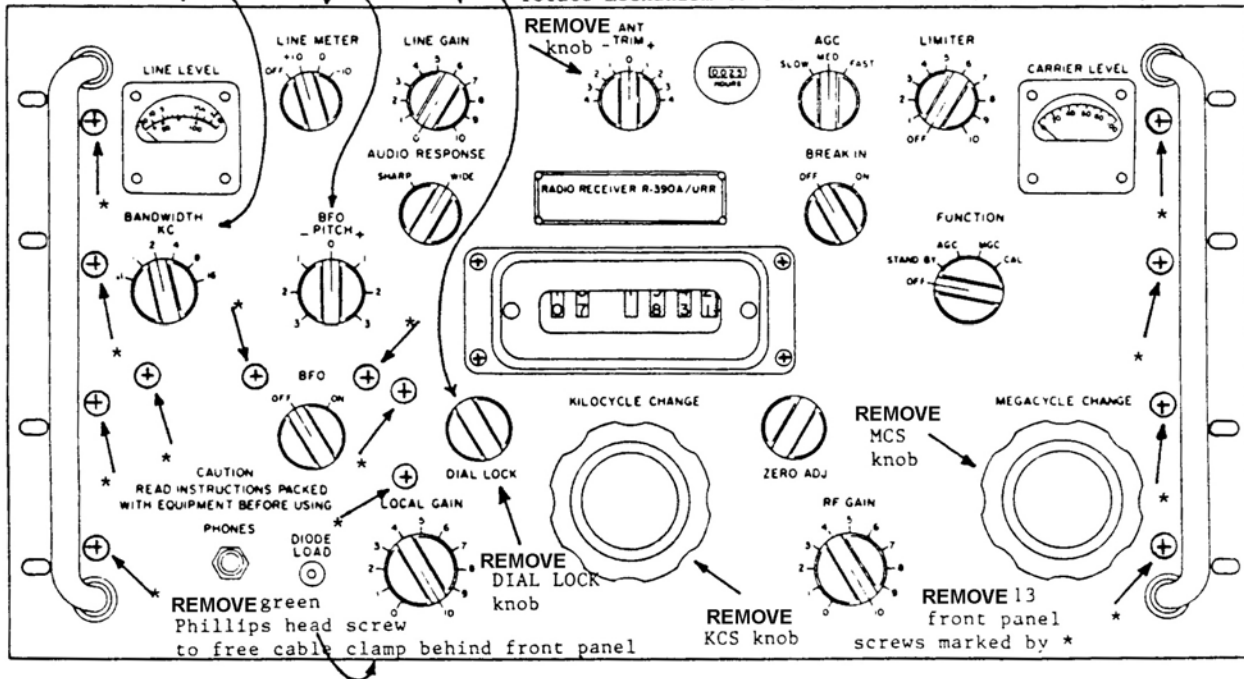

FIG. 1 Front Panel Removal
To determine if the Veeder Root counter (the MCS/KCS counter; see Fig. 1) is aligned, (1) turn the ZERO ADJ knob clockwise until the clutch is disengaged, i.e. until the digit wheel of the Veeder Root counter does not move when the KCS knob is turned through its zero adjustment range (about 14 kHz), (2) set the KCS knob at about the center of its adjust range, and (3) turn the ZERO ADJ knob fully counter clockwise to engage the clutch. The KCS knob should be left in the center of its zero adjust range for the remaining checks and alignments. Next, (4) turn the KCS knob throughout its entire range, from one limit of the 10 turn stop to the other. An aligned Veeder Root counter should read about xx-965 and xx+035 at the stop limits. In other words, the 1000 kHz tuning range of an R-390A has about 70 kHz of over range, and the over range should be divided equally between the two ends of the 1000 kHz tuning range.
If all of the cam tips align at the same frequency, and the difference between the cam tips alignment and 07+ stop is about 35 kHz (example: cam tips align at 07+015 and 07+ stop is at 07+050), then loosen the non-mar clamp on the right side bevel gear of the Veeder Root counter, and reset the digit drum of the counter to read 07+035 with the KCS knob at 07+ stop. The bevel gear can be accessed by removing the counter cover plate which is attached to the front panel by four Phillips head screws, see Fig. 1. After tightening the non-mar clamp on the bevel gear, turn the KCS knob through its range to make sure that the bevel gear is not binding and that there is no backlash in the digit drum. If there is binding or backlash, loosen the non-mar clamp, reposition the bevel gear, tighten the clamp, and check for binding or backlash again. Repeat until binding and backlash are eliminated or minimized.
If all of the cam tips do not align on the same frequency, remove the front panel (see Fig. 1), set the KCS knob to the 07+ stop, align the Veeder root counter to 07+035, set the KCS knob to 07+000, and for each cam loosen the non-mar clamp in front of the cam, set the cam tip to its alignment line, and tighten the non-mar clamp. It may be necessary to remove the associated rack tension springs when aligning a cam tip.